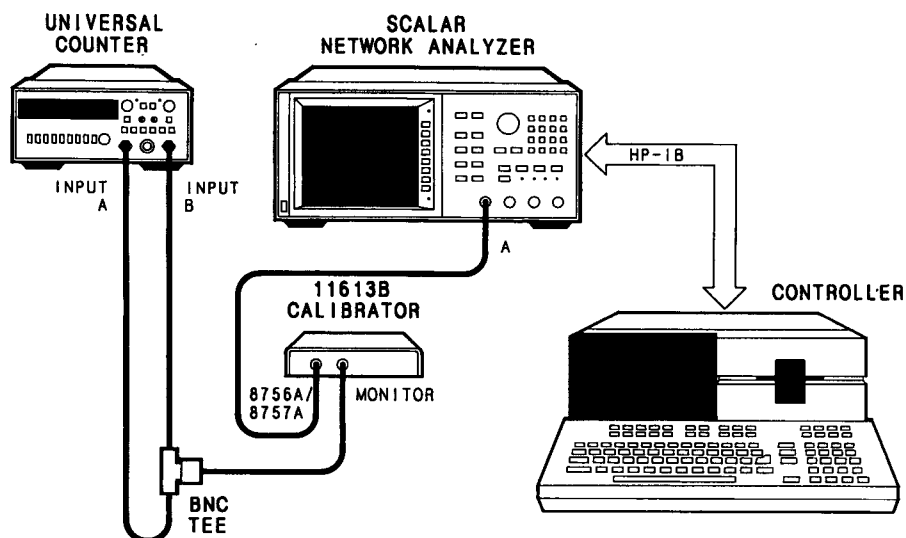

Figure 6-3. Test Setup #2 for Output Signal Check
10. Connect the equipment as shown in Figure 6-3.